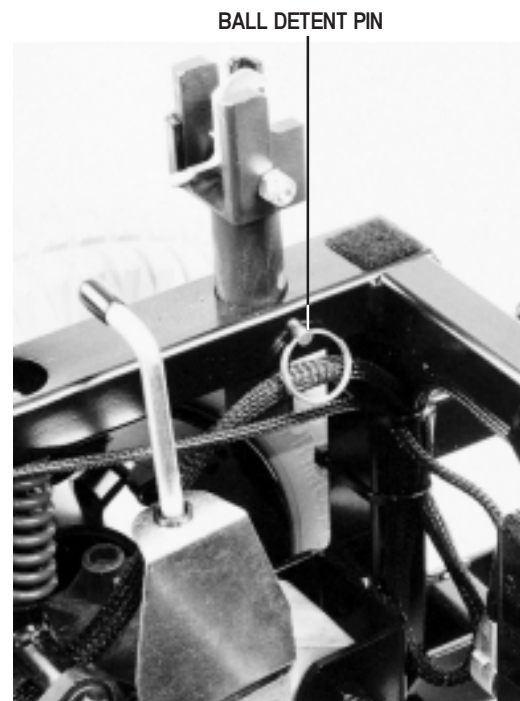

Figure 15. Seat Tower
3. Remove the ball detent pin from each seat tower. See figure 15.